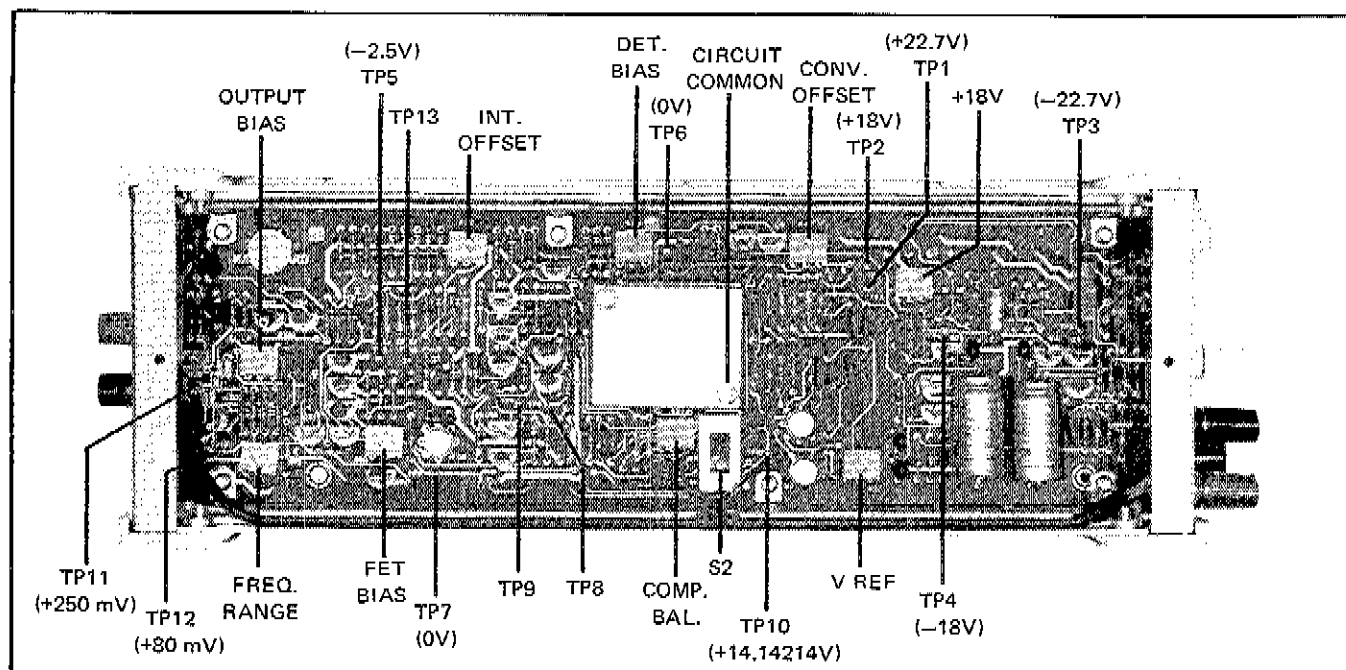

Figure 4-1. ADJUSTMENT AND TEST POINT LOCATIONS
- Turn off the Model 510A and remove the top dust cover. Access is provided to all adjustments and test points shown in Figure 4-1.
4-37. All calibration test points and adjustments are shown in Figure 4-1. These calibration points are accessible after removal of the top dust cover. Required test equipment is listed in Table 4-1.
- a. Remove the top dust cover. Adjustment and test point locations are shown in Figure 4-1.